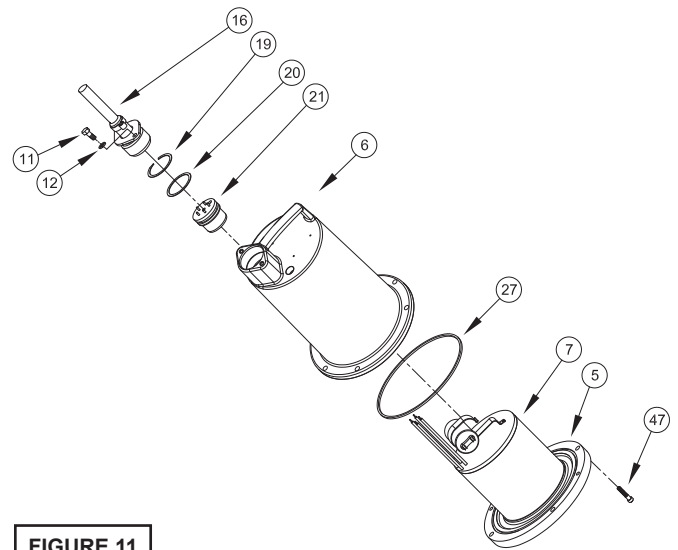

FIGURE 11
Position unit upright, using blocks to avoid resting unit on shaft. Unscrew cable hex bolts (11) and remove compression flange (16a) and power cord (16). Remove snap ring (19) with a flat head screwdriver. Pull the terminal block (21) out of the housing (6) using a T-bolt or pair of pliers and a .25-20 screw in the threads of the terminal block (21). Be sure to leave slack on the motor leads connected underneath. Use needle nose pliers to pull each female connector off of the pins on the underside of the terminal block (21) see Figure 11. The unit voltage should be noted. Repeat cable and terminal block removal procedure for any control cables (56) if equipped. Remove socket head cap screws (47). Vertically lift the motor housing (6) from seal plate (5) by lifting handle (13). Inspect square ring (27) for damage or cuts. Remove the motor bolts and lift motor stator from seal plate (5). Disconnect capacitor leads from capacitor (9, single phase units). Examine bearing